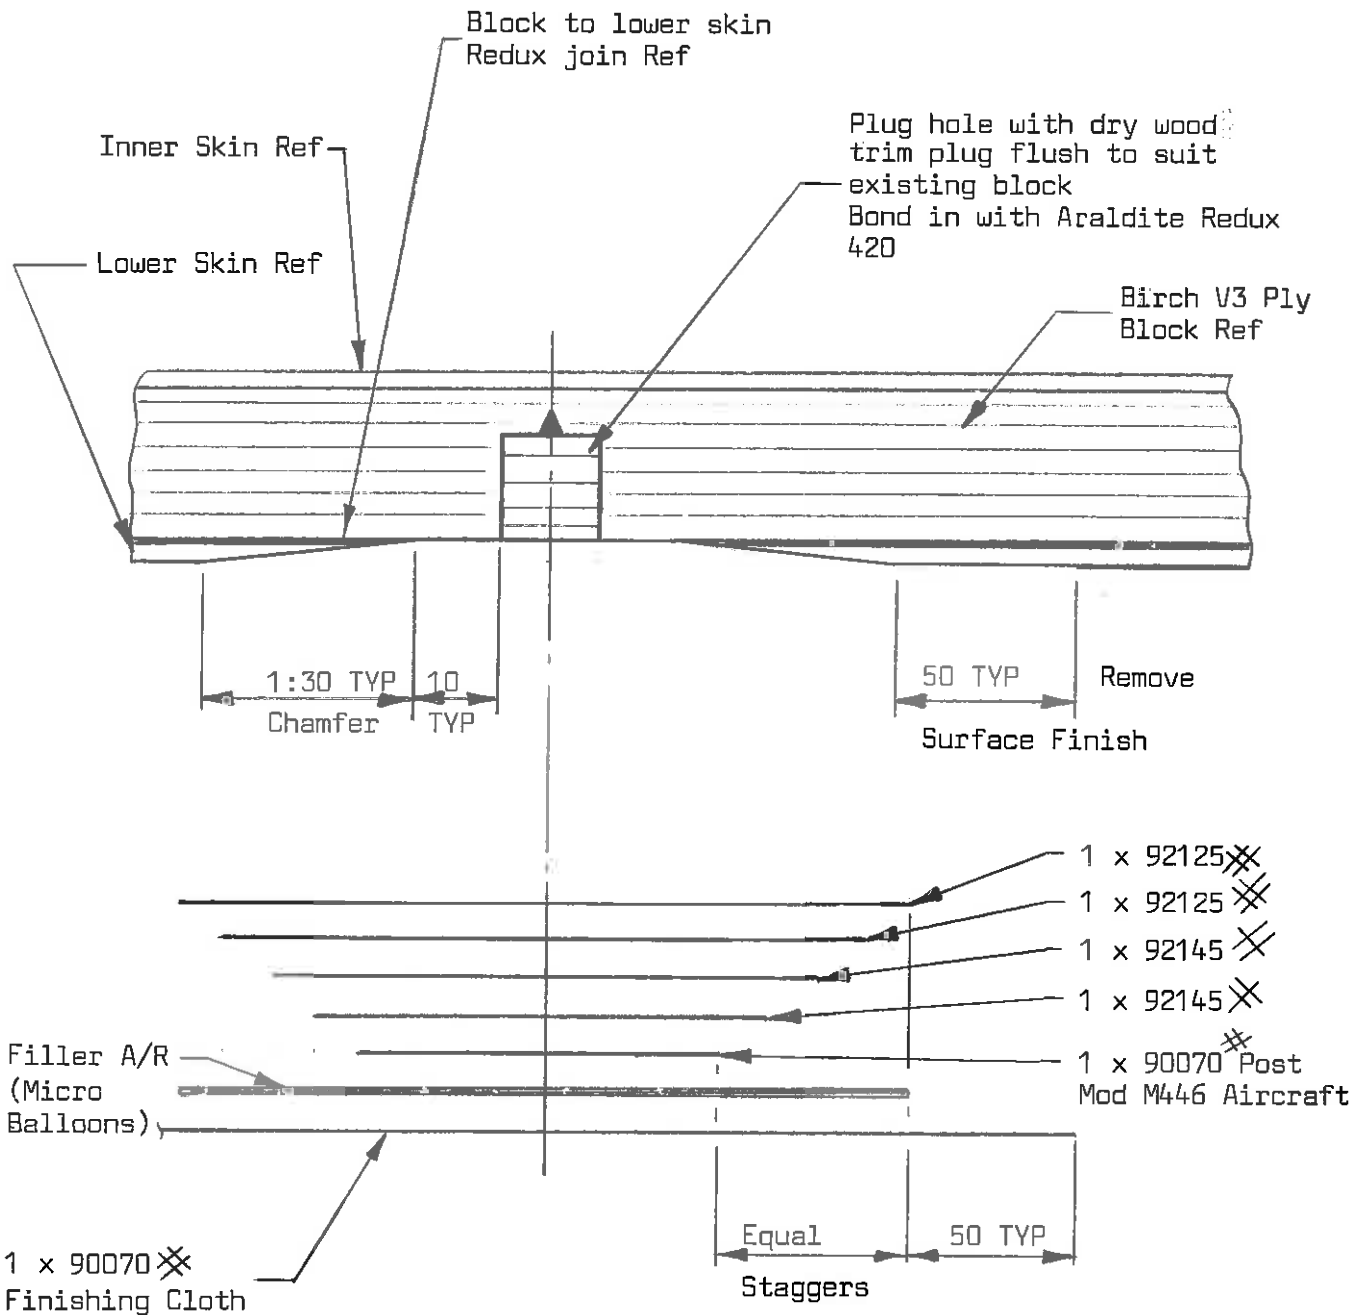

FIG 2
- i) If an inspection hole had been cut to check for high moisture content/rot then repair as per Fig 2 and in conjunction with the T67 GRP Aircraft Repair Manual.